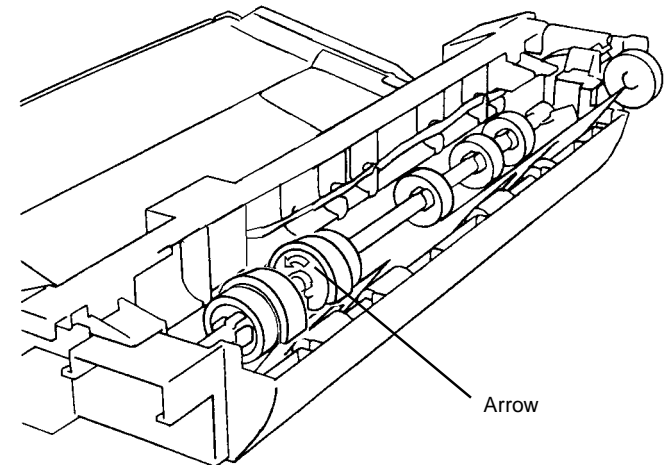

Figure 3 Installing Feed Roll
1. Ensure Arrow is positioned as shown (Figure 3).